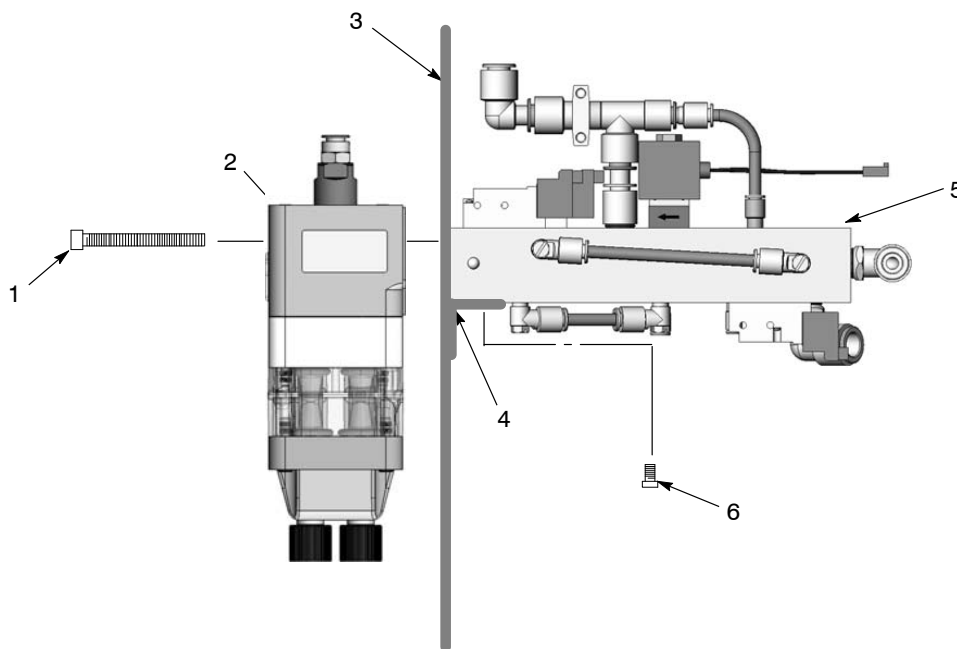

Figure 4-1 Pump and Manifold Installation
1. See Figure 4-1. Make sure that the gaskets on the pump (2) and manifold (5) are not damaged. If the gaskets are damaged, replace them.
2. Set the manifold onto the appropriate mounting bracket (4) against the pump panel wall (3). Secure the manifold with the mounting screws (6), but do not tighten the screws.
3. Secure the pump to the pump panel and manifold using the pump mounting screws (1). Tighten the pump mounting screws securely.